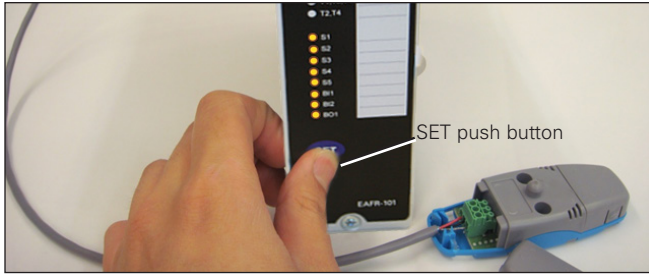

Figure 13. EAFR-01 sensor connection step 7.
7. Press and hold the SET push button on the front panel for two seconds in order to run the system auto-configuration setting (see Figure 13). The relay memorizes the sensor amount and binary input lines connected (if any).